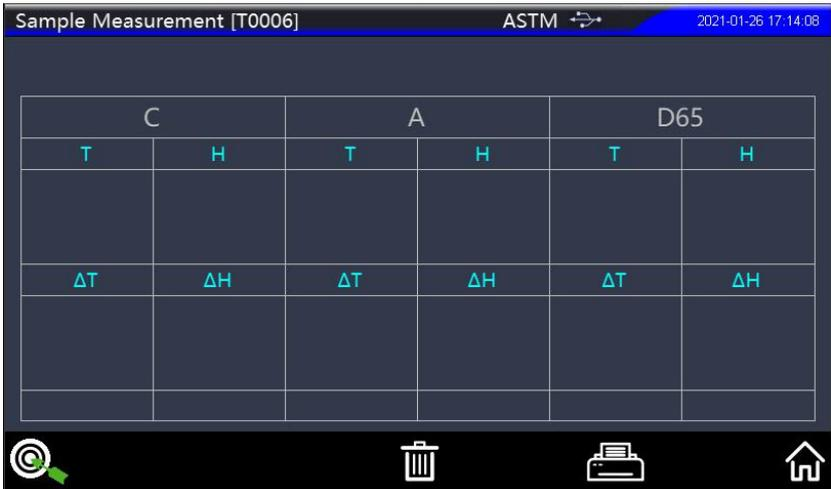

Figure 36 Change the standard record being viewed to the current standard
5. Click "Call out" or "Call out Selected" in the "Browse Standard" interface to change the standard record being viewed to the current standard, and the associated sample measurement interface will pop up, as shown in Figure 36.